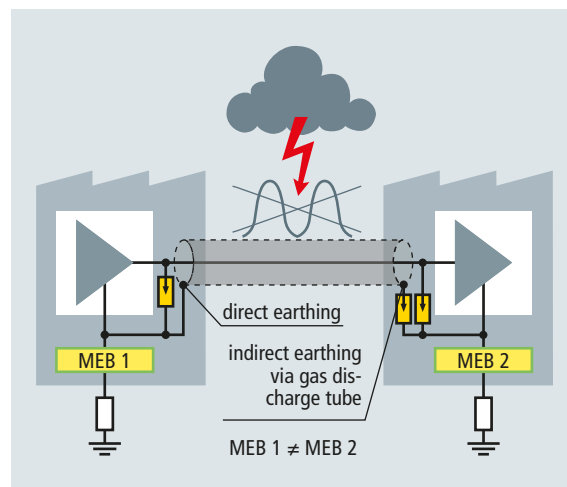

Figure 1 Shield connection on both ends – Shielding from capacitive/inductive coupling and direct and indirect shield earthing to prevent equalising currents
- ➔ Use of shielded data cables which must be earthed on both ends (**Figure 1**). Patch and connecting cables must be integrated in the shielding concept.